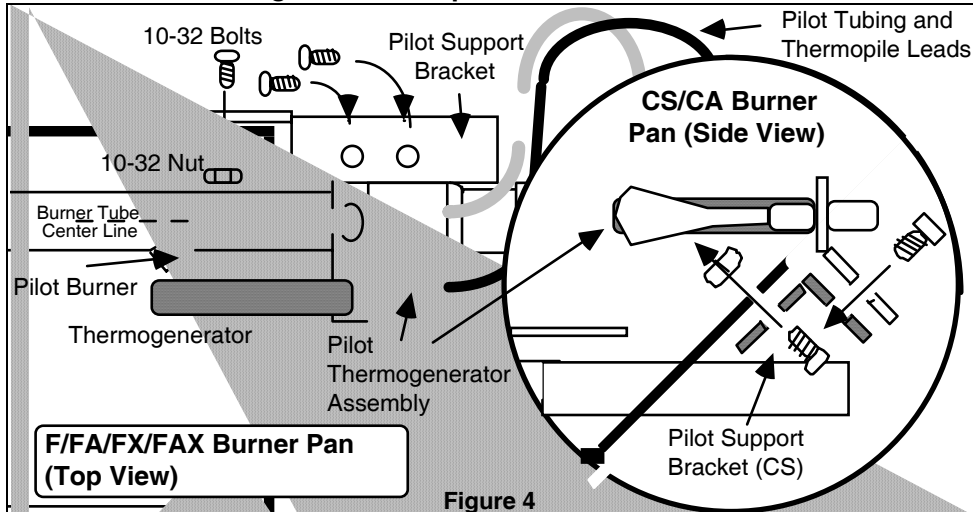

Figure 4
STEP TWO: Attach Pilot (Figure 4).
2. Insert **10-32 Bolt** through the **Pilot Support Bracket** and pre-drilled hole in back of Burner Pan (side of CS/CA pan-see "**CS/CA Burner Pan Side View**" at Figure 4). Thread **10-32 Nut** onto the 10-32 Bolt and tighten. Ensure that **Pilot Burner** is centered over **Burner Tube**.